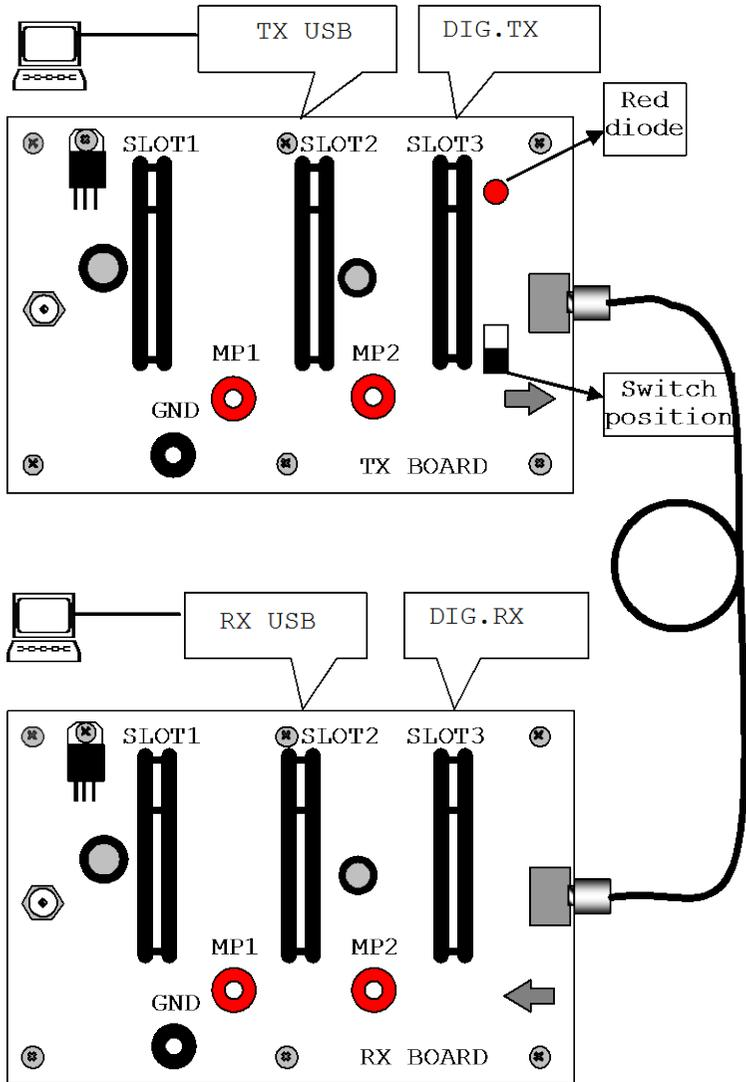

Figure 15: A set-up diagram of device for data transmission.
1. Insert the analogue transmitter into Slot 3, the potentiometer into Slot 1, and the low frequency generator into Slot 2 of the main transmitter panel (Figure 15).